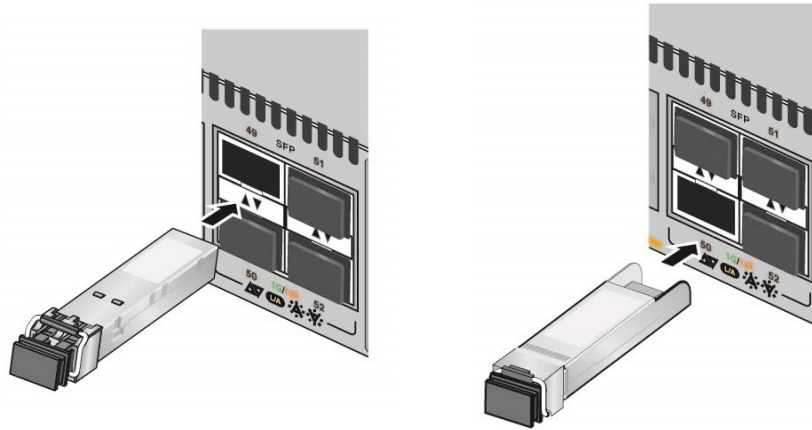

Figure 73. Installing an SFP+ Transceiver
4. Slide the transceiver into the port until it clicks into place, as shown in Figure 73 on page 139.